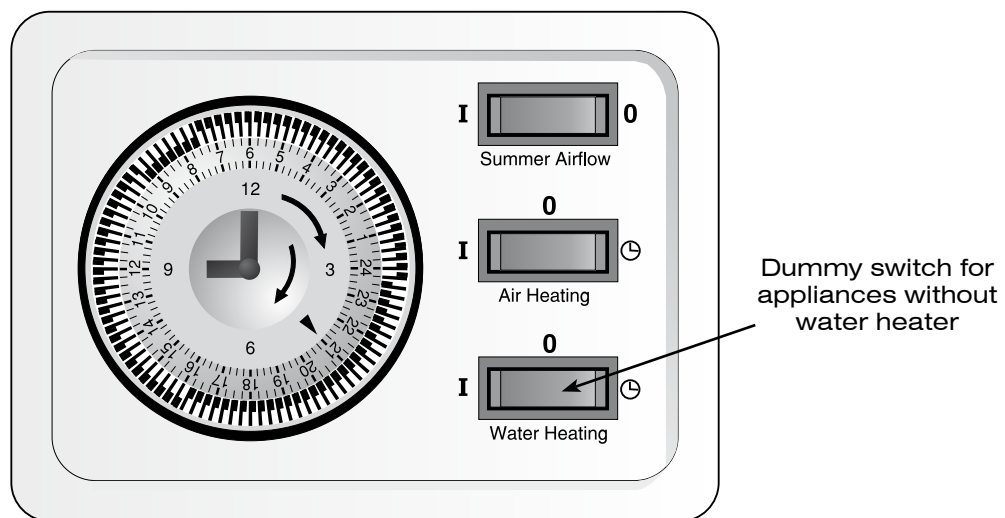

FIGURE 2. INTEGRAL TIME CONTROL
4.1 The integral time control (Figure 2) enables continuous or timed operation of your air heater, and water heater (if fitted), either individually or together.